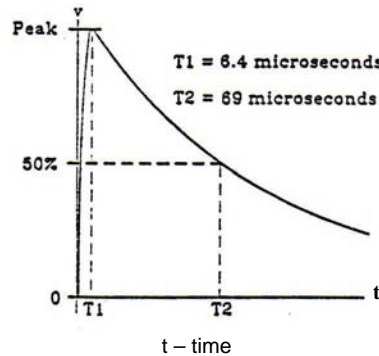

FIGURE 8 – Waveform 4
- Peak Pulse Power (P_{PP}) at 25°C: 65 kW at 6.4/69 μs per waveform in Figure 8 (derate per Figure 2)